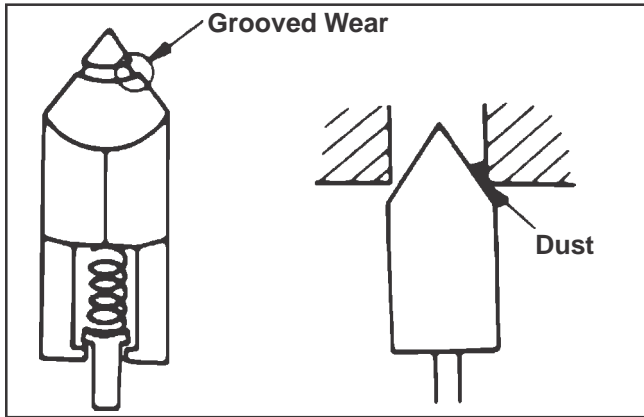

Figure 5-7. Inlet Needle and Seat Wear/Damage Details.
- d. Check components for contamination, wear, or damage. See Figure 5-7. Use carburetor cleaner to clean out any dirt or contamination. Use a float kit if the inlet needle or float is damaged or worn. If the inlet seat is damaged or worn, the carburetor must be replaced.